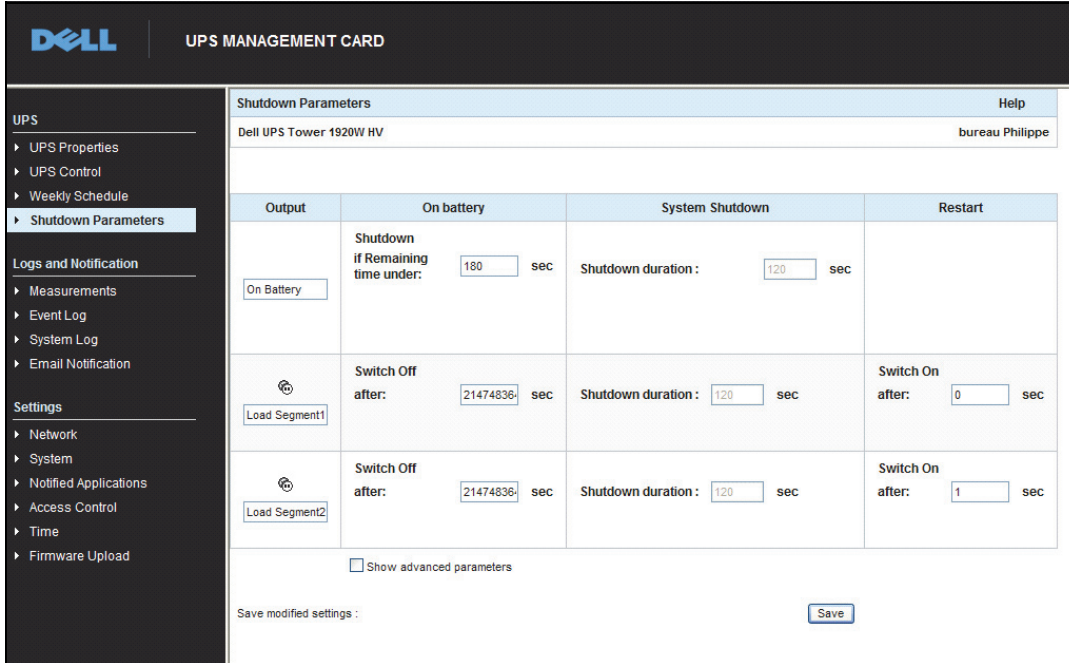

Figure 25. Dell UPS Management Card Web Interface
- The Dell Network Management Card default shutdown configuration is available from **UPS > Shutdown Configuration**, as illustrated in Figure 25.